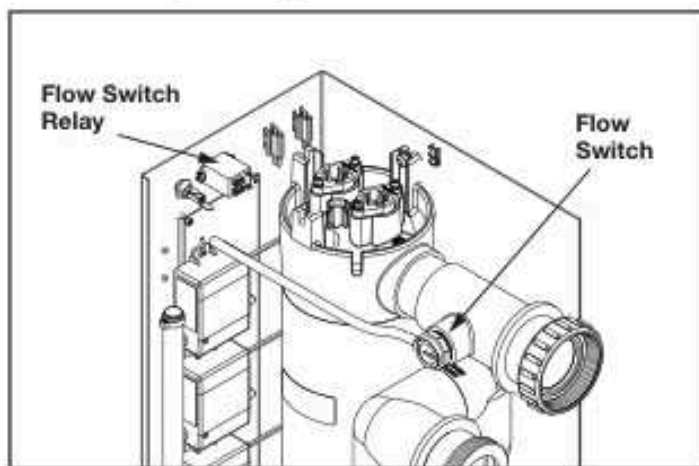

Figure 9. JAOPX500 Flow Switch and Electrical Relay Connection
4. Disconnect the flow switch connectors from the flow switch relay above the ozone generator assembly. See Figure 9.